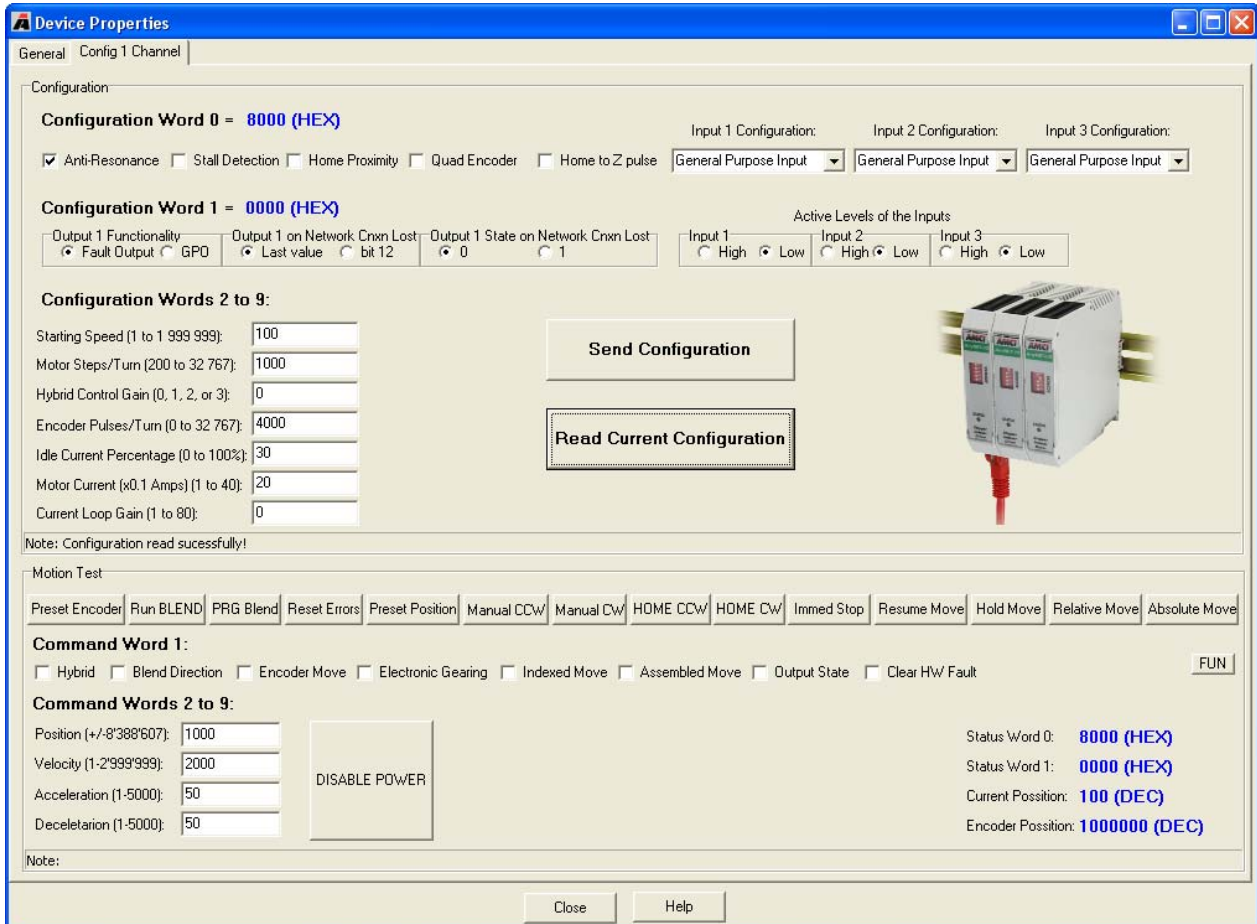

Figure 5.4 Configuration and Command Screen
The remaining tab(s) in the Device Parameters window allow you to configure the modules in the AnyNet-I/O stack. In the case of ANG1(M) modules, you can configure the module and execute commands. These features are typically used for bench testing because they can help you determine the correct configuration and command data to use in your Modbus program. Figure 5.4 below shows the configuration and command window for an ANG1(M). The data layout follows the format of the configuration and command data written to the ANG1(M) using the Modbus registers. The format of these registers are explained in the remaining chapters of this manual.